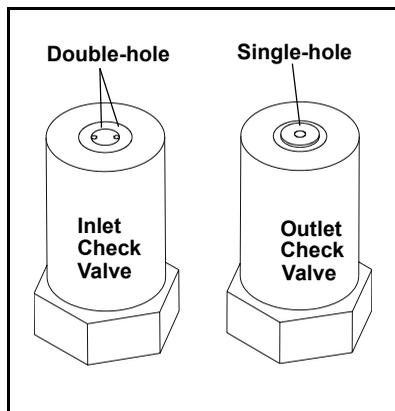

Figure 5-4. Pump Heads
4. Disconnect the tube fittings from the inlet and outlet check valve assemblies on the primary pump head (see Figure 5-4).
3. Locate the open end wrench (P/N 014605) provided in the ICS-1000 Ship Kit (P/N 057905). Use the wrench to remove the two acorn nuts (see Figure 5-4) from the pump head.